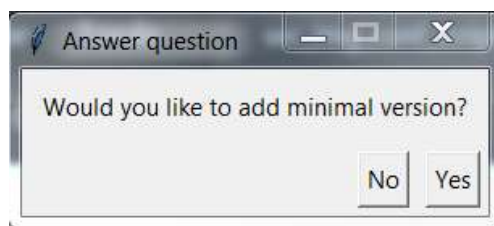

Figure 62: adding minimal version of software version
11. In this step the user can add minimal SW version on the platform (this is optional) as shown in Figure 62. This will be done after image validation on the platform. If the user doesn't write any version in the window show in Figure 63, then SW version of the used image will be used as new minimal SW version.